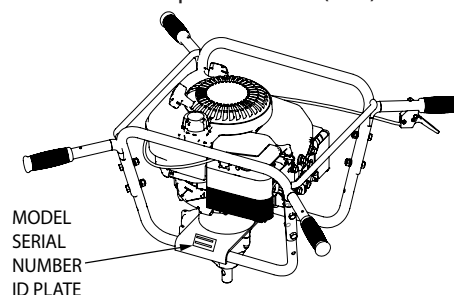

FIGURE 1
Record the model number and serial number in the space provided for easy reference. **(SEE FIGURE 1.)** Warranty is valid only if the completed registration is received by Ardisam within 30 days of purchase. You can register your warranty online by visiting www.getearthquake.com. If you do not have a computer, call our customer service department at (800) 345-6007 Mondays through Fridays from 8 a.m. to 5 p.m. CST.